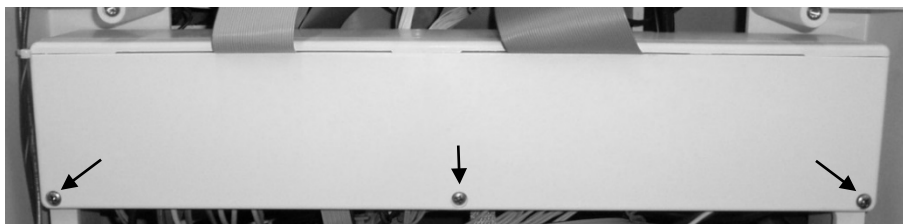

Figure 5 – Distribution Box Screw Locations
12. Remove the distribution box cover. See Figure 5 for screw locations.